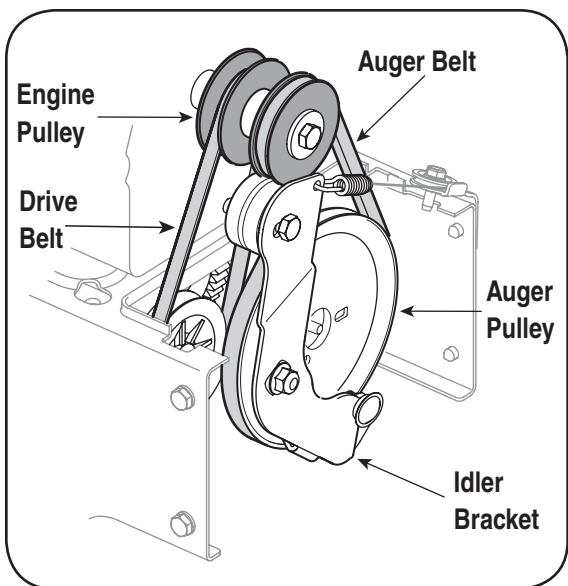

Figure 12
1. Slip the front auger belt off of the engine pulley pushing it forward and rolling it off of the pulley. See Figure 12.
5. Place the new drive belt into the groove on the engine pulley. See Figure 12.